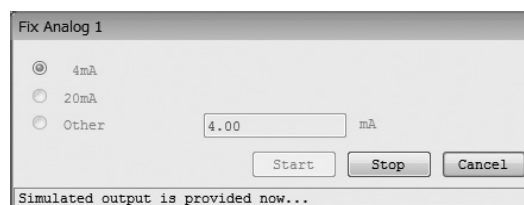

Fig.124
- ④ Click the "OK" button to cause the set analog value to be outputted. While the simulated output value is being outputted, a message at the bottom of the window will indicate that the system is "creating simulated output", as shown in Fig. 124. Click the "Stop" button to halt the simulated output.